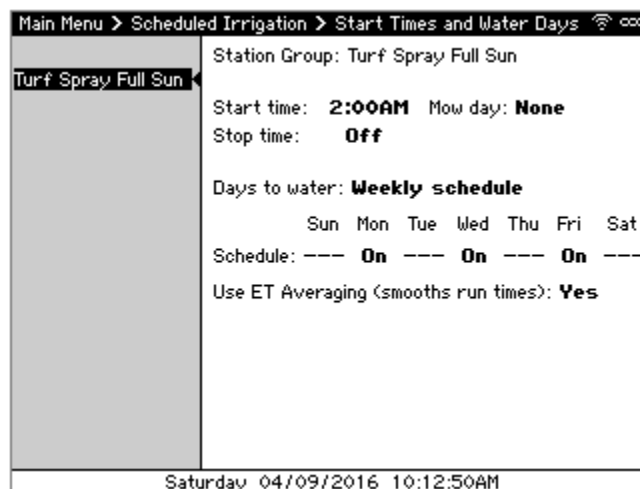

Figure 6 - Start Times and Water Days screen
- Navigate to and select **Start Times and Water Days**. The Start Times and Water Days screen displays (Figure 6). The pane on the left displays the Station Groups on this controller while the right shows the settings for each.